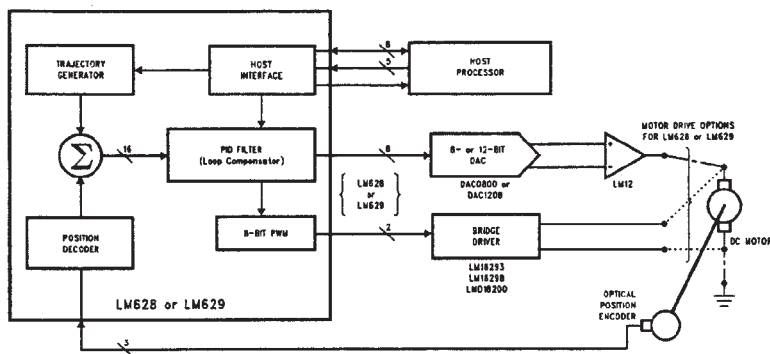

FIGURE 1. LM628 and LM629 Typical System Block Diagram
- Figure 1. LM628 and LM629 Typical System Block Diagram
LM628/629 is itself a purpose designed microcontroller that implements a position decoder, a summing junction, a digital PID loop compensation filter, and a trajectory profile generator. Figure 1. Output format is the only difference between LM628 and LM629. A parallel port is used to drive an 8- or 12-bit digital-to-analog converter from the LM628 while the LM629 provides a 7-bit plus sign PWM signal with sign and magnitude outputs. Interface to the host microcontroller is via an 8-bit bi-directional data port and six control lines which includes host interrupt and hardware reset. Maximum sampling rates of either 2.9 kHz or 3.9 kHz are available by choosing the LM628/9 device options that have 6 MHz or 8 MHz maximum clock frequencies (device -6 or -8 suffixes).
Four major functional blocks make up the LM628/629 in addition to the host and output interfaces. These are the Trajectory Profile Generator, Loop Compensating PID Filter, Summing Junction and Motor Position Decoder (Figure 1).
Desired position inputs to the summing junction, Figure 1, within the LM628/629 are provided by an internal independent trajectory profile generator. The trajectory profile generator takes information from the host and computes for each sample interval a new current desired position. The information required from the host is, operating mode, either position or velocity, target acceleration, target velocity and target position in position mode.